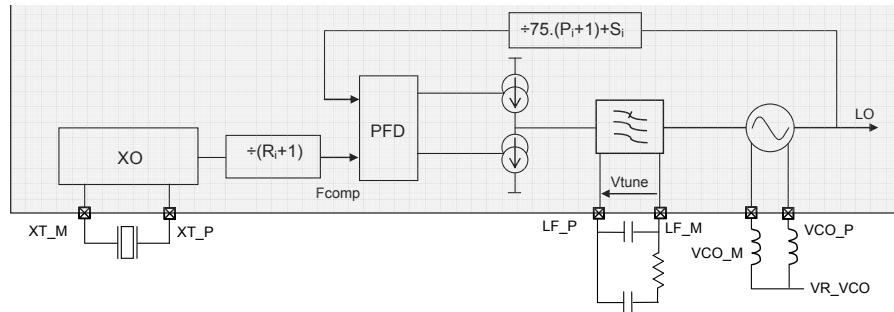

Figure 5: Frequency Synthesizer Description
The crystal oscillator (XO) forms the reference oscillator of an Integer-N Phase Locked Loop (PLL), whose operation is discussed in the following section. Figure 5 shows a block schematic of the SX1210 PLL. Here the crystal reference frequency and the software controlled dividers R, P and S determine the output frequency of the PLL.
As shown in Figure 5 the PLL structure comprises three different dividers, R, P and S, which set the output frequency through the LO. A second set of dividers is also available to allow rapid switching between a pair of frequencies: R1/P1/S1 and R2/P2/S2. These six dividers are programmed by six bytes of the register MCPParam from addresses 6 to 11.